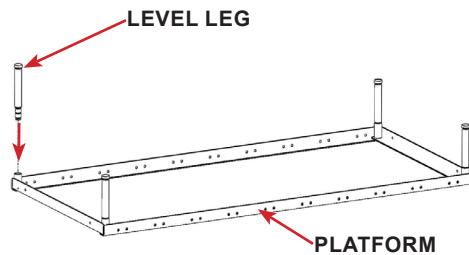

FIGURE 2.6 - Single Cage Platform
STEP 2: For single cage platforms, insert a leg into each of the post sockets. See FIGURE 2.6